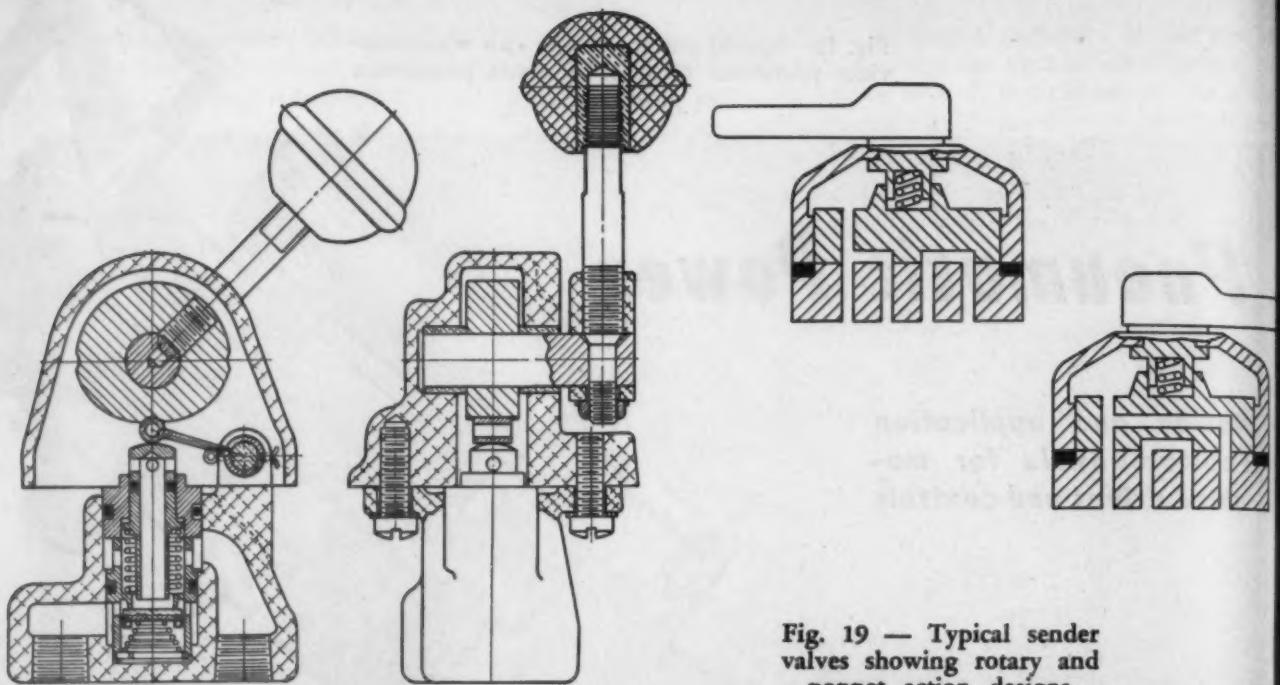

Fig. 19 — Typical sender valves showing rotary and poppet action designs
the on-and-off type which either delivers full supply pressure to the actuator or exhausts air from it. *Fig. 19* shows two typical valves of this type. The rotary valve consists of two disks lapped to an airtight fit. One disk rotates on the other to connect the various ports at the lapped surface. This rotary valve construction lends itself to multifunction valves with several positions connecting various ports in each position. The pilot valve is a poppet type supply and exhaust valve, lever-operated. In addition to hand-operated senders, there are many others that are operated by foot pedals, pushbuttons, solenoids, cams, levers and other machine parts.
1. The starting button is a valve similar to the pilot valve shown in Fig. 19, except that it has a pushbutton instead of a lever
5. The cycle completion feature is a pilot valve similar to Fig. 19 except for a lever arrangement